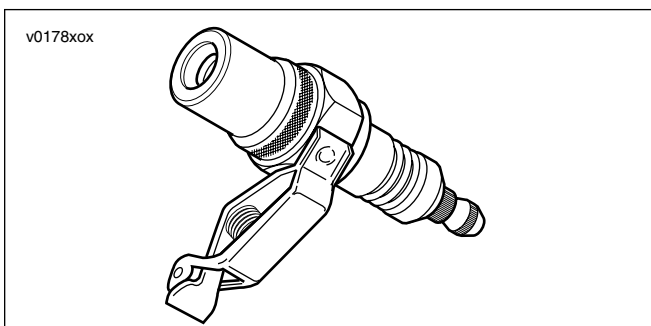

Figure 4-54. Spark Tester
2. See Figure 4-54. A SPARK TESTER (Part No. HD-26792) must be used to verify adequate secondary voltage (25,000 volts) at the spark plug.